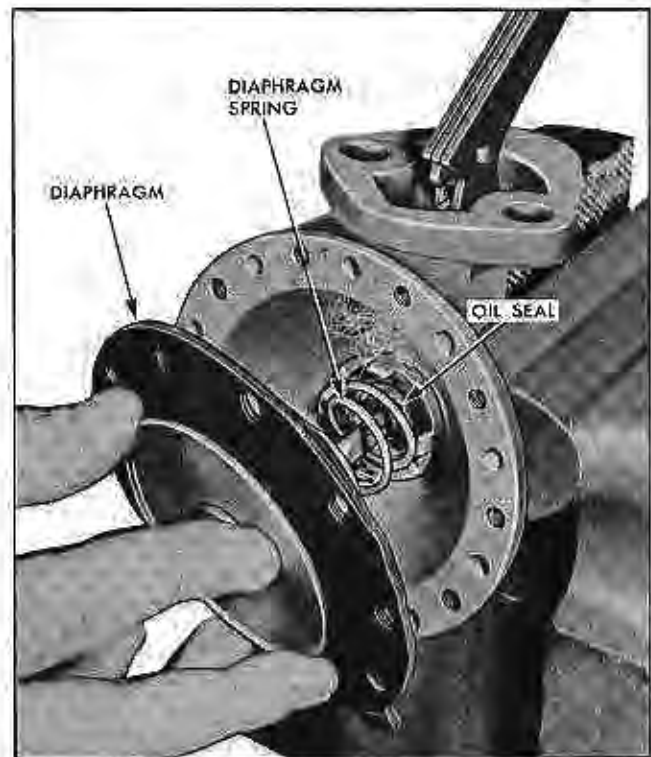

Fig. 6B-108 Sealing Diaphragm Spring in Seal Well
10. Place pump body in vise with mounting flange up (Fig. 6B-107).
12. Pick up diaphragm, retainer and spring as an assembly and push pull rod through oil seal into body. Be sure diaphragm spring is seated in seal well (Fig. 6B-108).